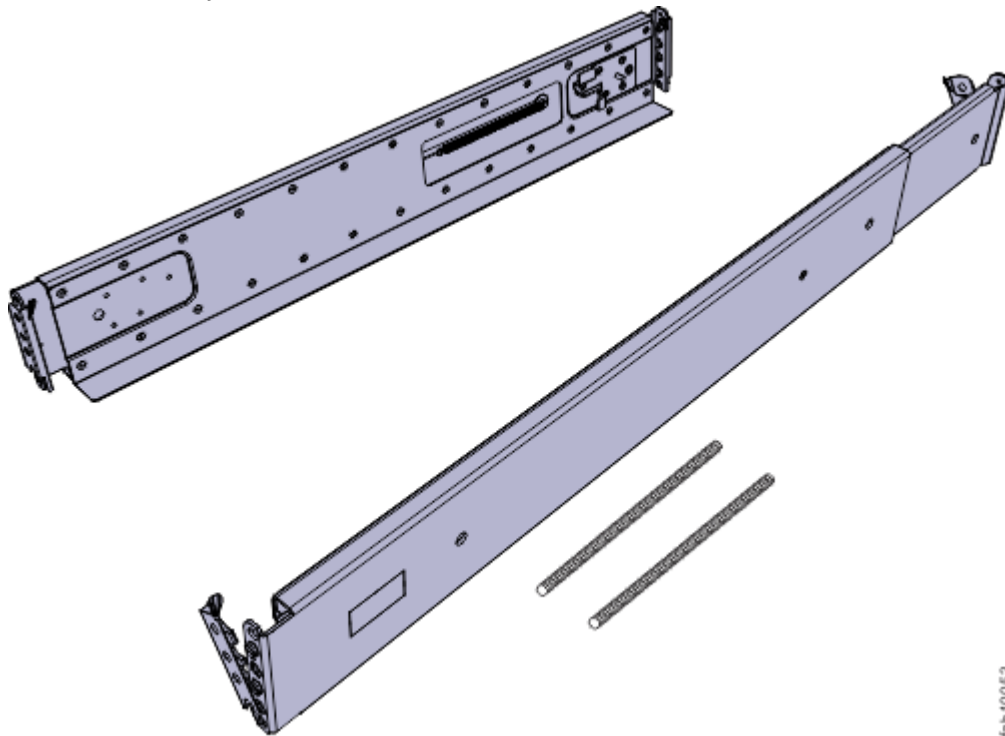

Figure 16. Expansion enclosure support rails
1. Locate the expansion enclosure rails (Figure 16 on page 18).